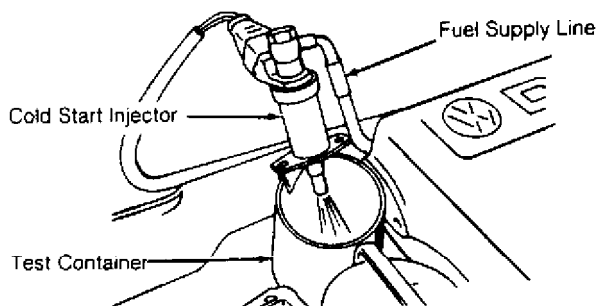

Fig. 8: Testing Typical Cold Start Valve
2) Remove ignition coil secondary wire and jumper to ground. Attach metal housing of cold start valve to ground. Direct cold start valve injector into a clean container. See Fig. 8. Have assistant turn ignition switch to START position, while observing cold start valve spray pattern.